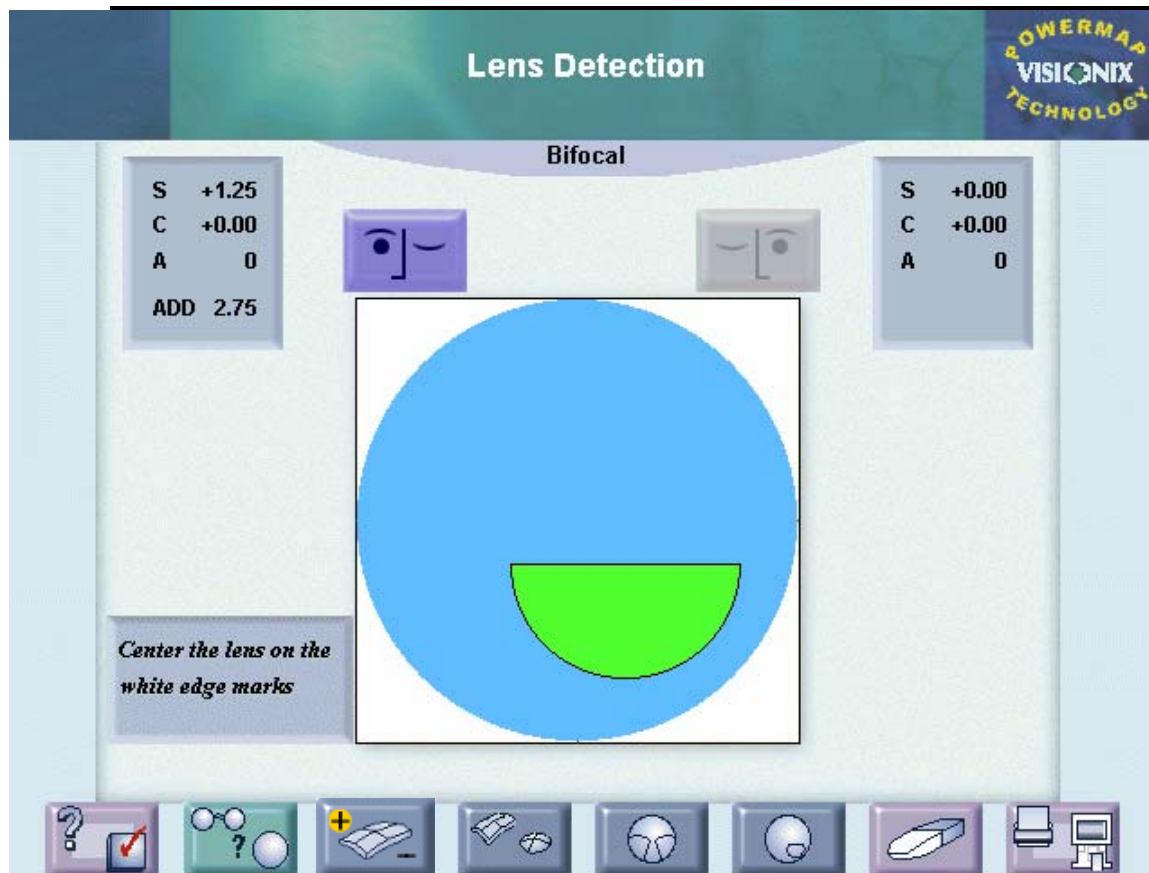

Figure 10
4. Press the **Bifocal Lens** button; a Bifocal lens map is displayed with the far vision and segment graphically shown. (see Figure 10).